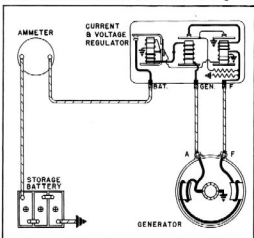

Fig. 18—Generator and Regulator Circuit Diagram
The positive wire from the generator is connected to the generator (GEN) terminal of the regulator; and the field terminal of the generator is connected to the field (F) terminal of the regulator. The wire from the battery through the ammeter to the battery (BAT) terminal of the regulator. These connections are shown in Fig. 18.
the voltage winding of the circuit breaker to magnetize its core sufficiently to attract the circuit breaker armature and close the points, establishing a circuit from the generator to the battery as shown in Fig. 18.